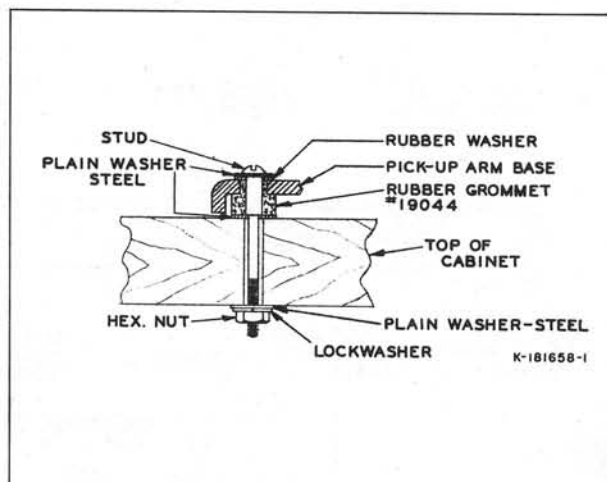

Figure 12—Pickup arm mounting details.
37. The pickup arm should be parallel to the record face and is so adjusted at the factory. Should this at any time not be the case, proceed as follows: Determine the amount of deviation from the parallel. Then disconnect the pickup leads from the terminal board and remove the pickup cable from the clamp above the terminal board. Remove the pickup arm assembly from the cabinet top. Remove the two machine screws ("A", figure 13). Pull out the two pins and remove the spacers at the pivot. Lift the pickup arm from the base casting. This exposes the upper fulcrum screw (see figure 13). Loosen the locknuts on both upper and lower fulcrum screws and adjust the screws to raise or lower the pivot casting as required. A complete turn of the screw produces a vertical motion of $\frac{1}{32}$ inch. Retighten the locknuts so that the pivot casting does not bind and there is no side or end play in the bearings. Install the arm and cable in their former positions (see figure 12).